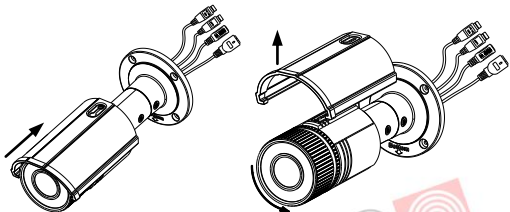

Figure 2-1 Disassemble the Camera
1. Rotate the TW M3X5 screw counterclockwise about 3 to 4 rounds to loosen it. Slide the sun shield according to the arrow direction as shown in Figure 2-1(left).
2. Remove the sun shield according to the arrow direction as shown in Figure 2-1(right).
3. Remove the front cover by rotating it counterclockwise as shown in Figure 2-1(right).